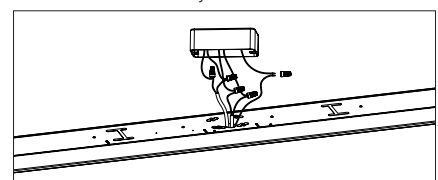

Figure 7
- f. Connect the fixture AC wires to the corresponding supply wires (BLACK to BLACK, WHITE to WHITE, and GREEN to GREEN) in the junction box and secure using wire nuts (Part DD-P4). (Figure 7,8)
- g. Connect the dimming wires to the corresponding wires (PURPLE to PURPLE, PINK to PINK) in the junction box and secure using wire nuts (Part DD-P1). (Figure 7,8)